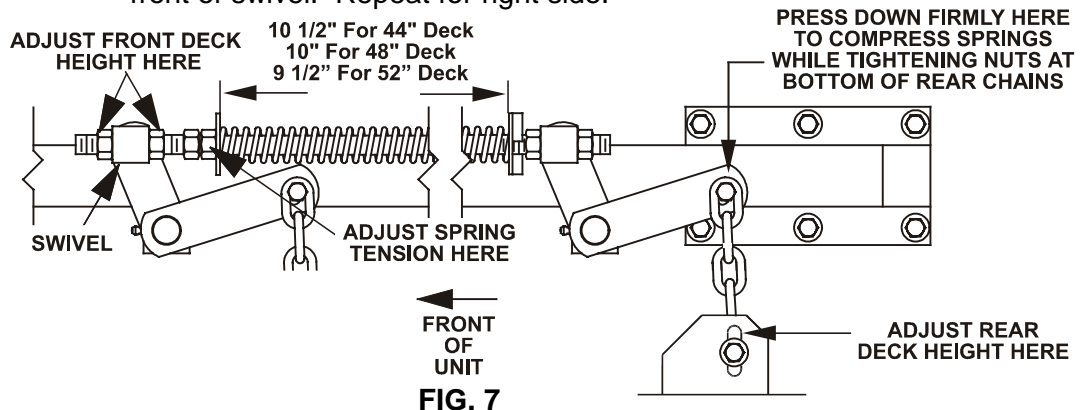

FIG. 7
- Check tire pressure of all four (4) tires. If needed, adjust to 13 psi (90 kPa).
- e) Raise the deck to the 4.5" height position and take as much force as possible off of the two large deck lift springs by loosening the nuts at the front of each spring. See Fig. 7.
- g) Loosen the two (2) bottom chain bolts in slots at the rear of the cutting deck. Loosen four (4) nuts which secure front swivels (two per side), until front chains are loose and front of deck is supported by the 1-1/8" block. Do not loosen front chain hardware.
- h) When hardware is loosened, remaining tension in the large support springs will tend to rotate the deck lift handle up, out of the 1 1/2" position. Press down on the rear deck support arm (as shown in Fig. 7) to firmly return the deck lift handle to the 1 1/2" position. **DO NOT** push on deck lift handle. While continuing to press down, take the slack out of the rear chains and tighten hardware at the bottom of the rear chains. Downward pressure may now be released.
- k) Raise deck lift lever to the 4.5" cutting height position (also transport position, See Fig 5. Adjust spring compression until proper distance is obtained between the two washers (See Fig 7) by turning the nut at the front of each spring. Lock nuts in position with jam nuts.